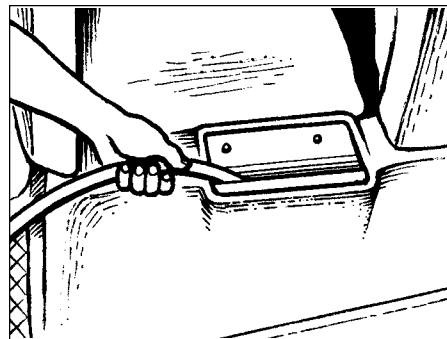

Figure 34
The solution tank fill port is located under the seat (see figure 34). To fill the solution tank, follow this procedure:
- Fill the solution tank with clean water (see figure 34).